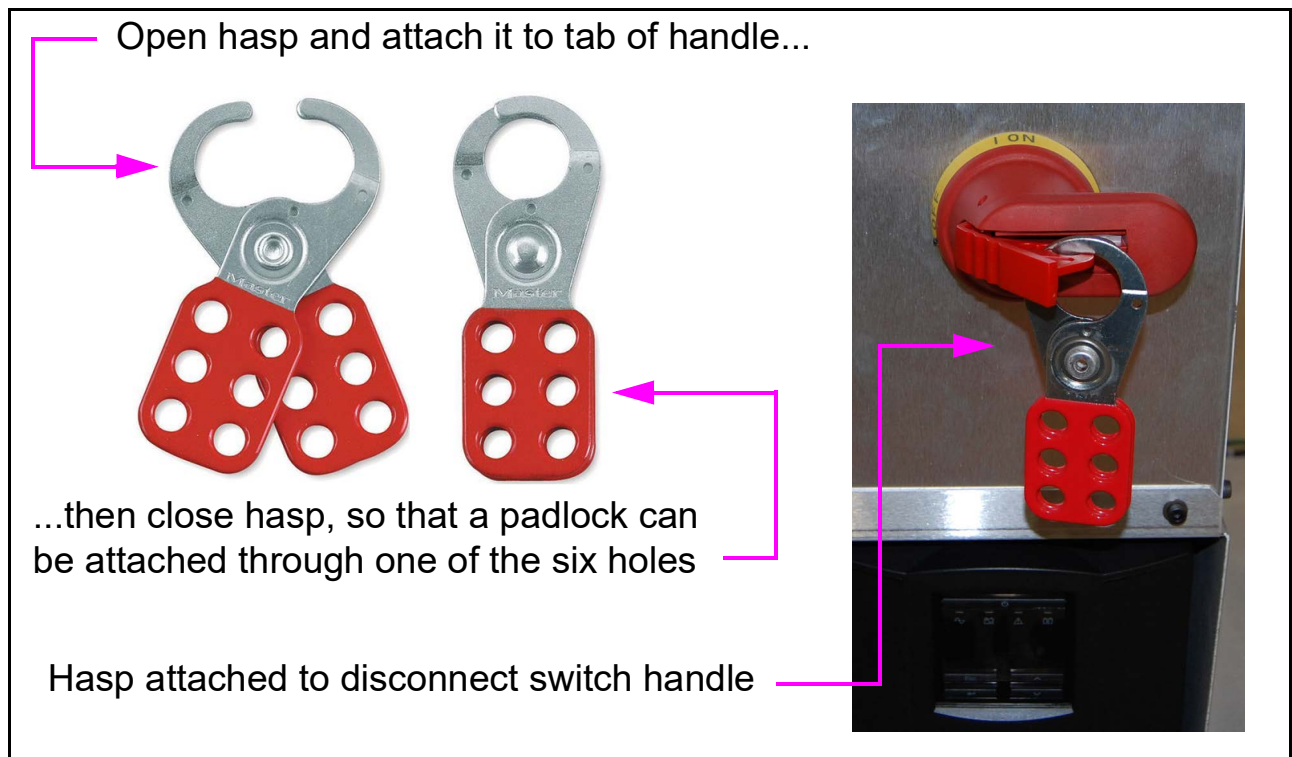

Figure 2-14: Hasp Detail
8. Pull the tab out on the main disconnect switch handle and place a hasp through the tab (see Figure 2-14).